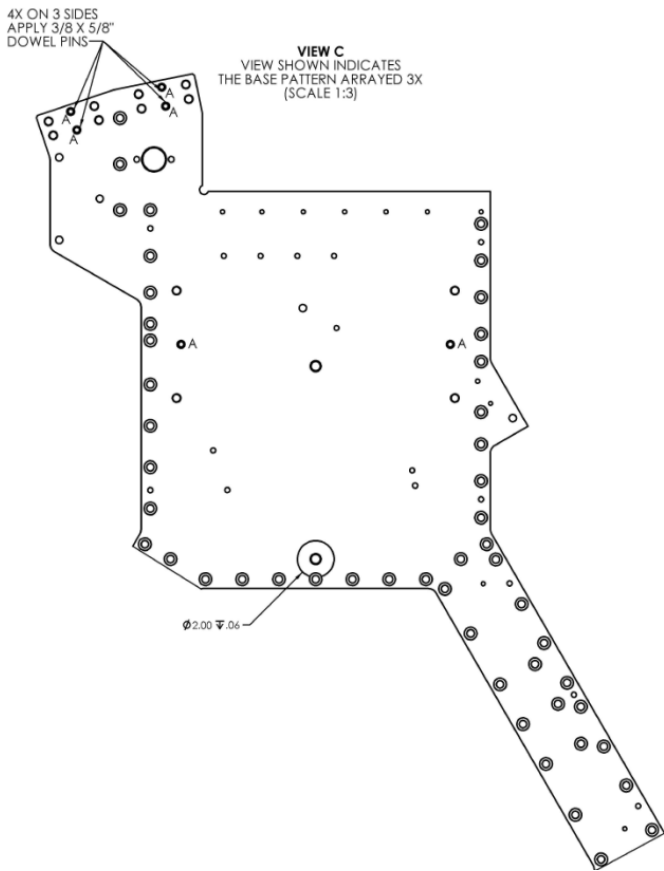

Fig 13.1
1. Install helicoils and dowels in locations shown Figure 13.1 and 13.2 see appendix C for p/n and installation instructions